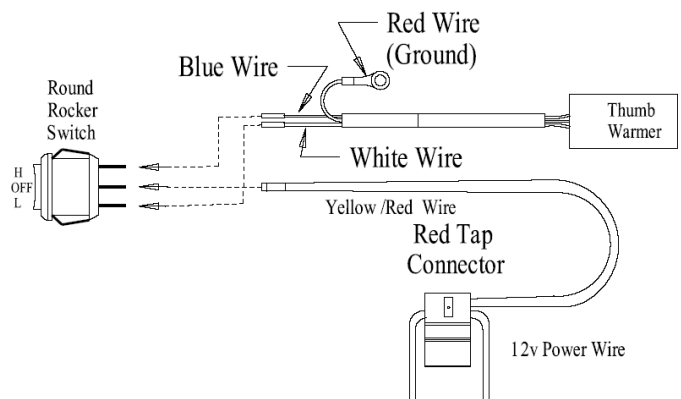

Figure 2. Switch Connections (Option B)
Soldering the connections is the most durable method, but the following will provide years of service. Attach the 1/4" female slip-on connectors and #10 ring terminal to warmer leads as shown in Figure 2. (A crimping tool works best, but a Vise Grips or pliers will work).
**Option B:** Locate a power wire (usually yellow) leading to a headlight, taillight, or dash light (Figure 2). Using the red tap connector, place this power wire into the continuous channel and insert the yellow/red wire (do not strip insulation) completely to stop in the second channel. Make the connection by squeezing (w/pliers) the metal contact until flush with the top of the connector. Close the hinged cover until latched.